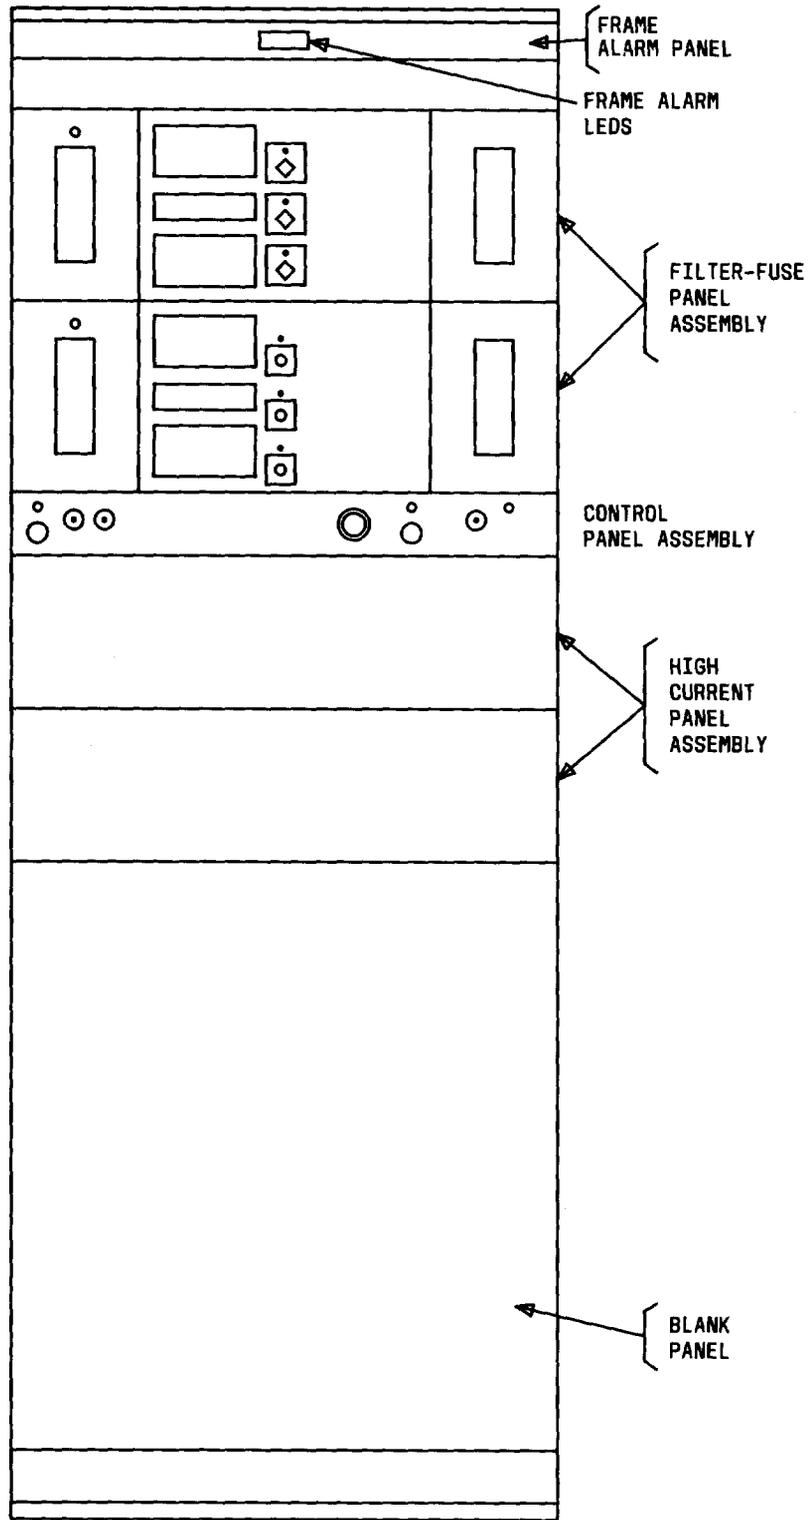

Fig. 1 — J86334A DC Power Distributing Frame
2.02 The common use power distributing frame (Fig. 1) is 7 feet high, 26 inches wide, and 24 inches deep. The basic frame includes stile strips, base covers with or without appliance outlets, a frame alarm panel (four LEDs wired in series-parallel), and rear doors to protect personnel and frame circuitry.